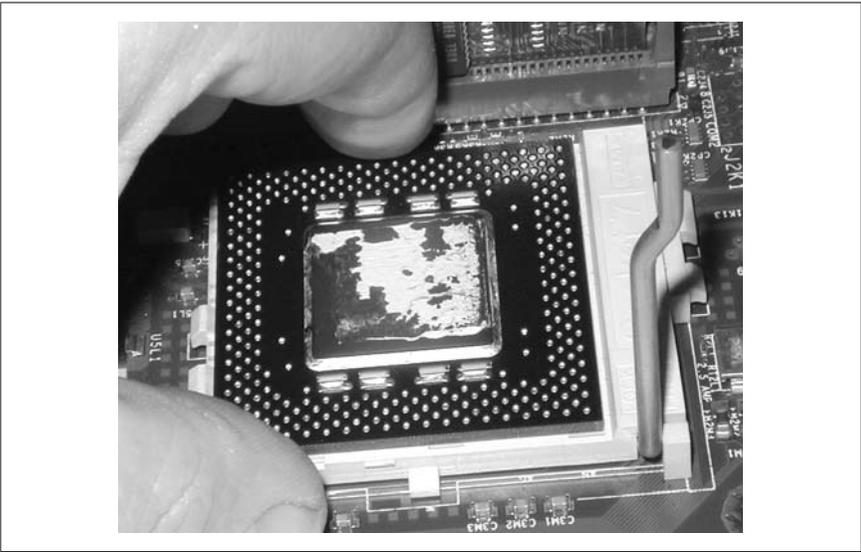

Figure 4-14. Dropping the processor into the socket, where it should seat fully by its own weight (Be sure to align the pins first)
3. Locate Pin 1 on the new processor. Pin 1 is usually indicated by a dot or beveled edge on one corner of the processor, or by a missing pin on that corner. Locate Pin 1 on the ZIF socket, which is usually indicated by a dot or beveled edge, and sometimes by a numeral 1 silk-screened onto the motherboard itself. Orient Pin 1 on the new processor to Pin 1 on the socket and then gently press the processor into the socket, as shown in Figure 4-14. The processor should seat fully with little or no resistance, dropping into place because of its own weight. If the processor does not seat easily, remove it, verify that the pins align correctly, and try to seat it again. Avoid excessive force when seating the processor. It's easy to bend pins, and straightening them is next to impossible.
The processor shown in Figure 4-14 is an Intel Pentium/200, which we were relocating from a system with a failed motherboard to replace a slower processor in another system. The mottling visible on the processor is the remnants of the thermal pad from the old heatsink. Good practice would have been to clean the leftover parts of the thermal pad from the processor and heatsink before proceeding, but we simply added a dollop of thermal goop, which worked fine. We certainly wouldn't do this on any processor we cared about.